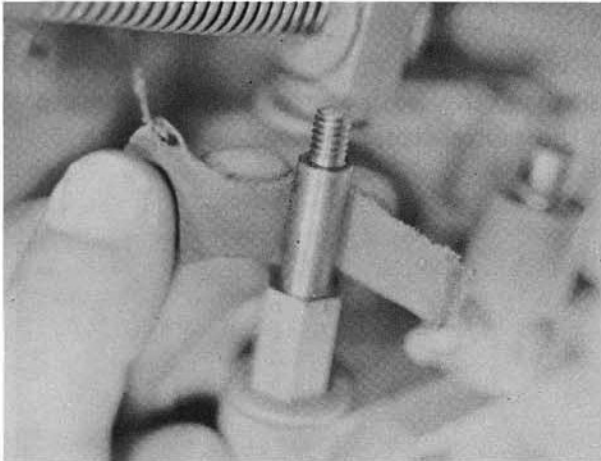

Figure 4
b. If there is binding, ream the teflon bushings or polish the Pivot Pin with emery cloth (as in Figure 4) to correct